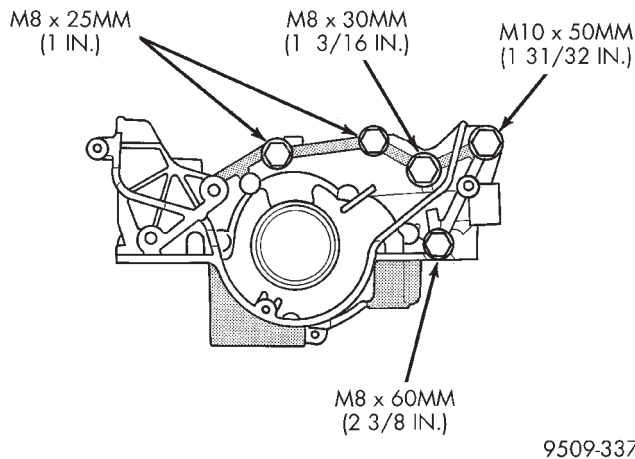

Fig. 67 Oil Pump
- (1) Remove front mounted oil pump assembly and gasket (Fig. 66) and (Fig. 67).